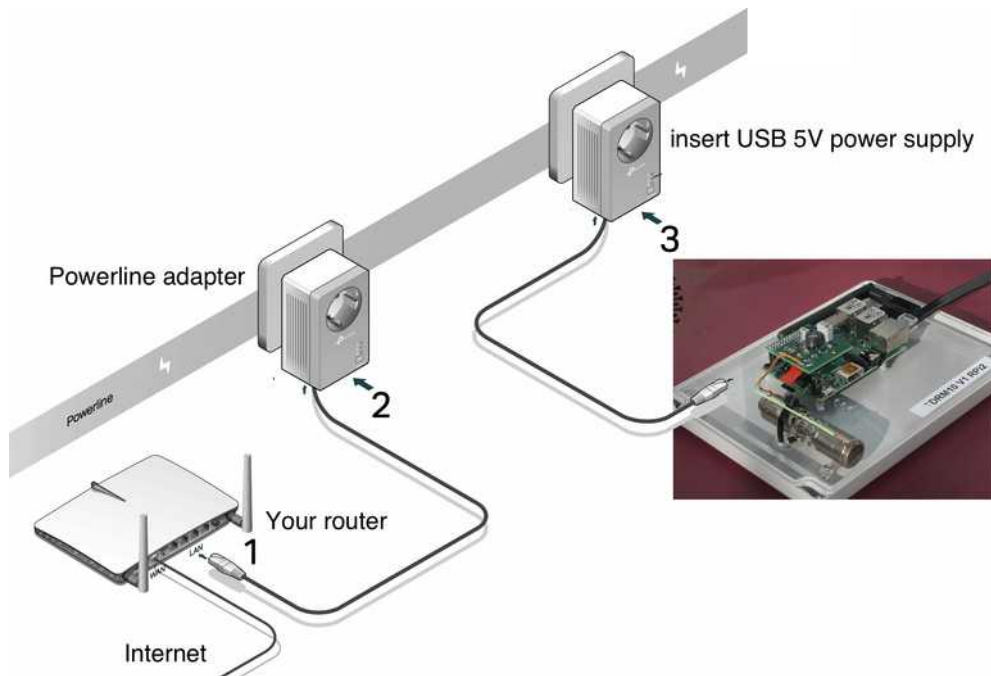

Fig. 1: Type A installation, data transmitted over the mains cable by means of powerline adapters
- (A) Instal without LAN cable: Given a mains outlet close to the location of the sensor box, then the mains cable can be used also for the data transmission. This will be accomplished by applying a pair of *powerline adapters*, one to be plugged in a mains outlet close to the router, the counterpart plugged in the outdoor mains outlet. Then the data ports of either unit have to be connected, with short LAN cables, to the router and the sensor box resp, see fig.1.